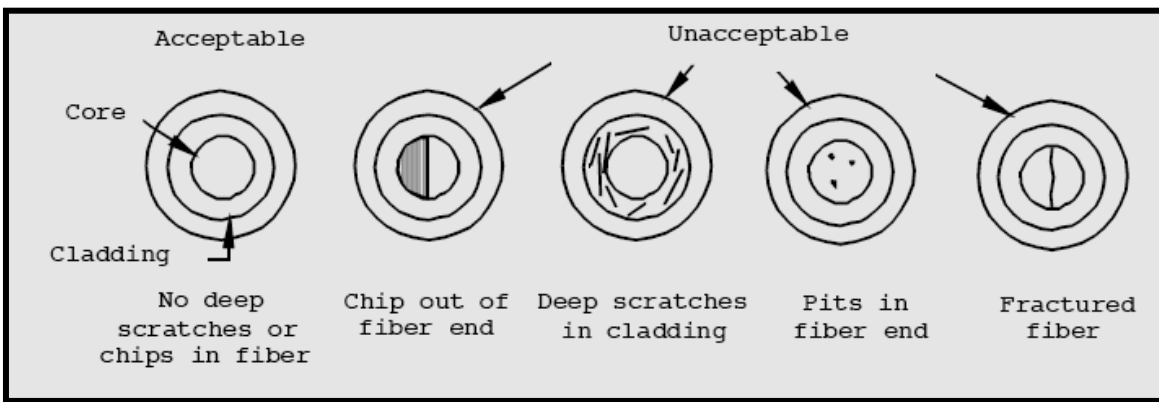

Figure 2-113. Quality Check
**Step 4** - Place the 5 um polishing paper on the glass plate and start polishing the connector with very light pressure (the weight of the tool) using a figure-8 motion (see figure 2-113). Do not over polish the connector.
**Step 1** - Examine the connector with the optical microscope to ensure that the optical surface is smooth and free of scratches, pits, chips, and fractures (see figure 2-113). If any defects are present, repeat the polish with the 0.1 um paper (and the ultrafine paper for enhanced polish connectors) or reterminate the fiber.